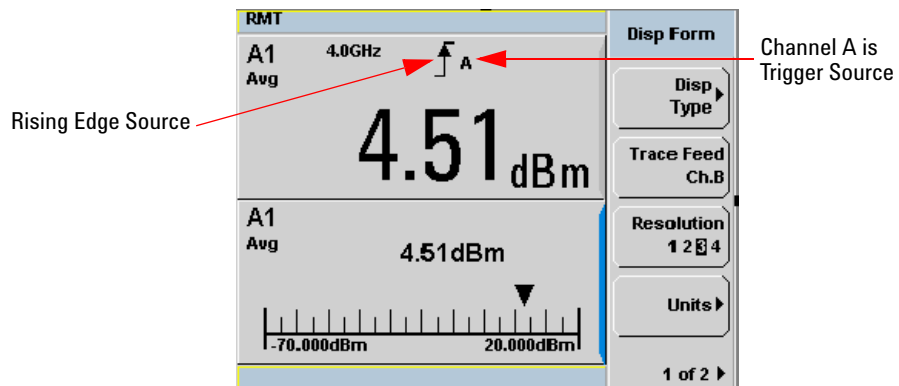

Figure 2-52 Trigger Setting Menu 1 of 2
- 3 Press **Settings** to configure the remaining trigger parameters. The trigger **Settings** menu have two pages. Figure 2-52 shows page one and Figure 2-55 shows page two.